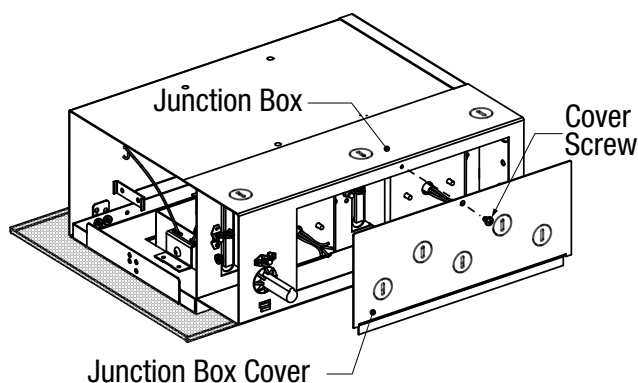

FIGURE 3
Step 2. Remove junction box cover **Fig 3**.
Step 5. Place all connections and excess wiring into the junction box and replace cover **Fig 3**.